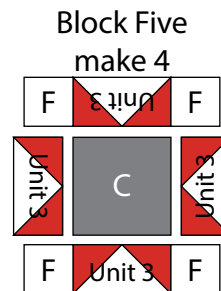

Fig. 17
22. Sew (1) 2" Fabric F square to each end of (1) Unit 3 strip to make the top row. Repeat to make the bottom row. Sew (1) Unit 3 strip to each side of (1) 3 ½" Fabric C square to make the middle row. Sew together the (3) rows lengthwise to make (1) 6 ½" Block Five square (Fig. 17). Repeat to make (4) Block Five squares total.